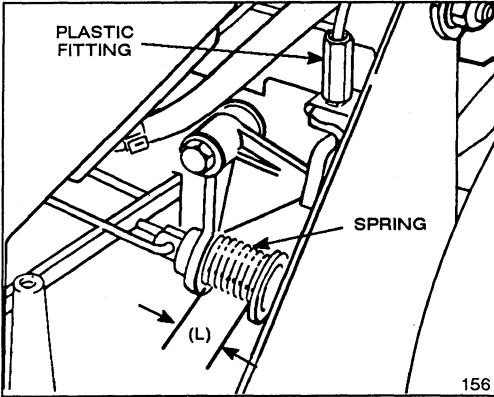

Figure 24
3. Move control bar down and lift up against handle. With control bar against handle, measure spring length (L) at the front of the spring as shown in figure 24.
5. To adjust, rotate plastic fitting on blade brake cable (Fig. 24) until spring dimension is as near as possible to but not less than 1". (See following note.)